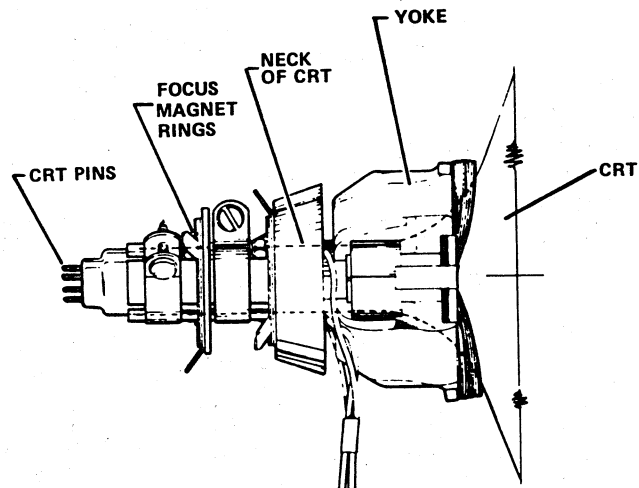

Figure 6-45. Adjusting Focus Ring Magnetic Assembly
14. Adjust the focus magnet rings (figure 6-45) to reduce to a minimum any tails or halos visible on the characters (especially those characters located in the corners of the display).